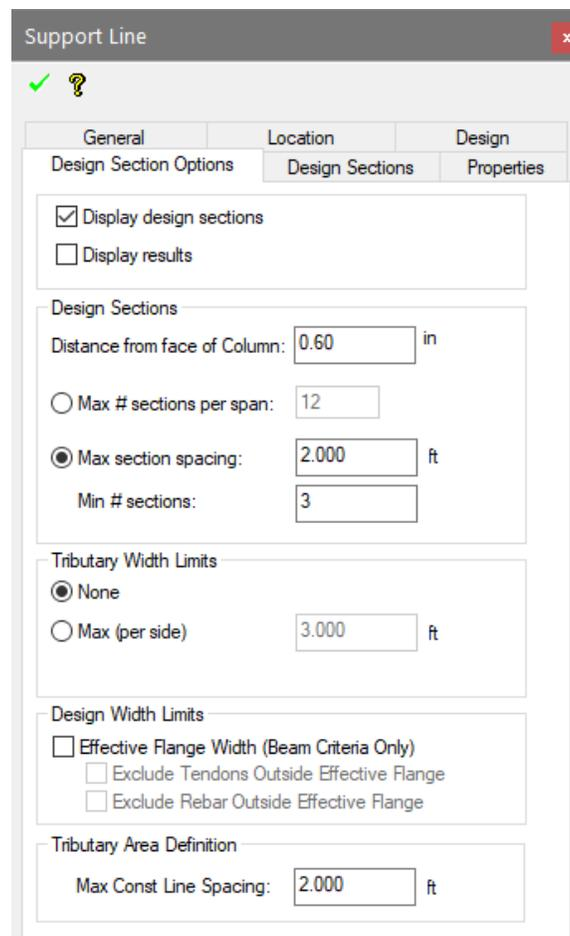

Figure 6-8
- Click on the *Design Section Options* tab. This will open the window as shown in **FIGURE 6-8**.